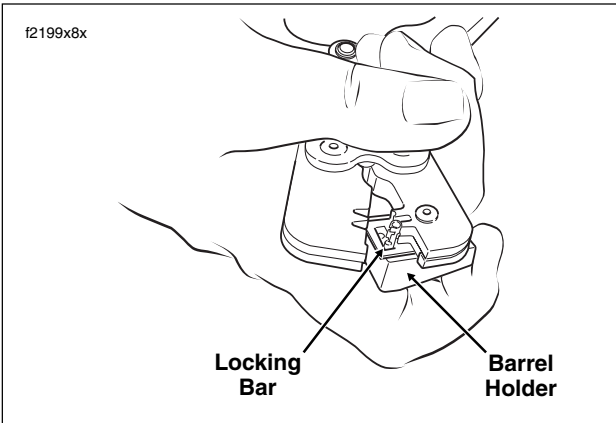

Figure 8-48. Position Contact in Crimper
7. Release locking bar to lock position of contact. When correctly positioned, the locking bar fits snugly in the space at the front of the core crimp tails and the closed side of the terminal rests on the outer nest of the crimp tool. See Figure 8-48.